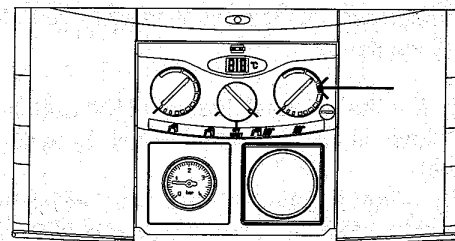

Fig. 5
3.3. Adjust the central heating temperature control knob (3) to suit the weather, turning clockwise to increase setting, anticlockwise to decrease setting (Fig.5). When the appliance is being used in the central heating mode the temperature indicator (3) indicates the approximate temperature of the central heating water leaving the appliance.